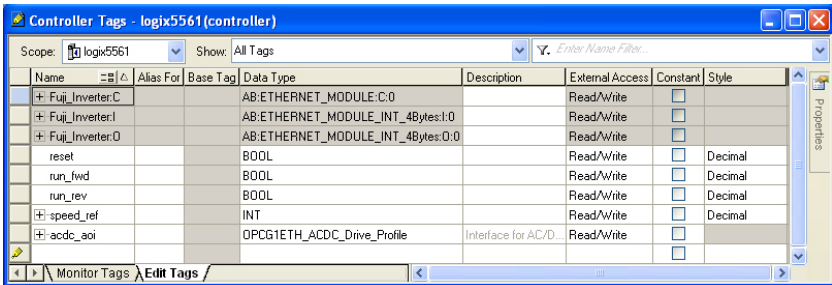

Figure 90: Create AC/DC Drive Profile AOI Tags
- 4) Create the tags in Figure 90.